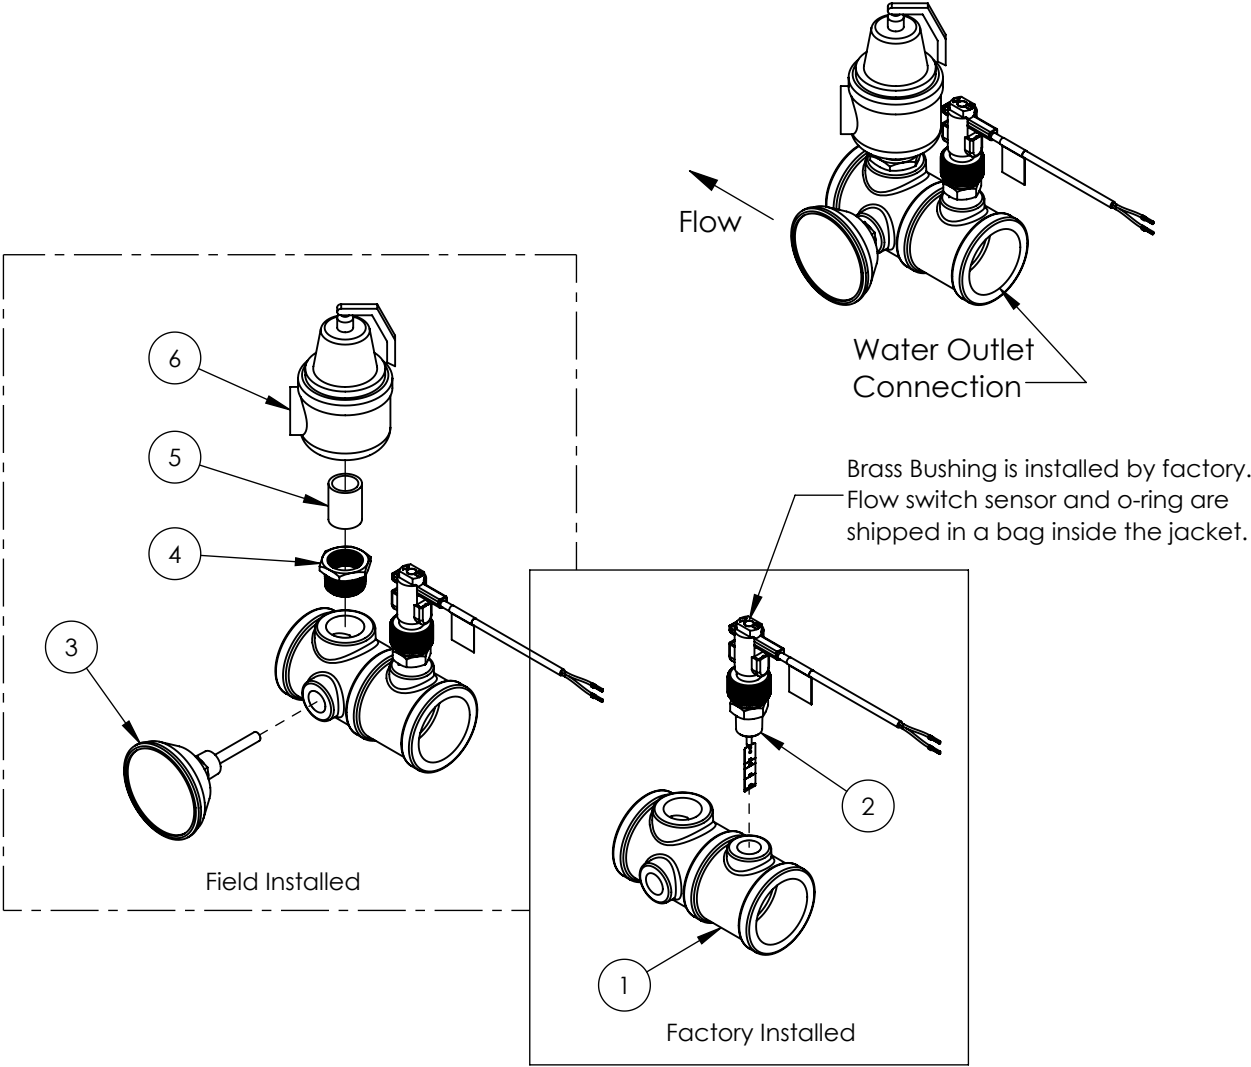

Figure 17: Relief Valve Package Assembly
- 1. The relief valve, T&P gauge, and required fittings ship loose with the appliance. These parts must be installed to the outlet as shown in Figure 17.